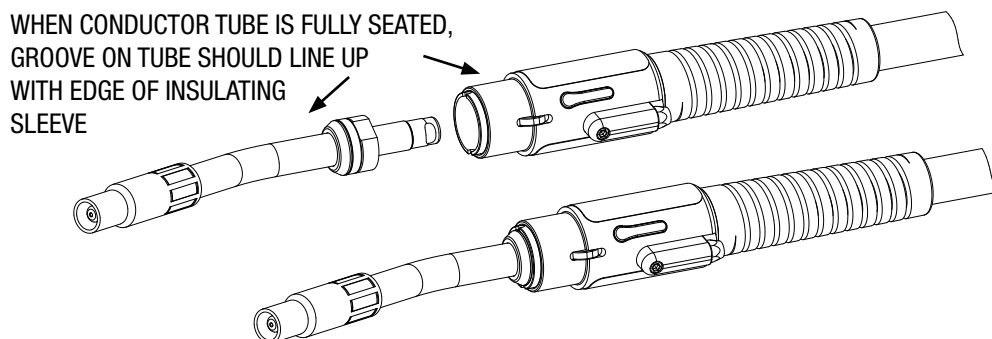

Figure 3: Conductor Tube Installation
6. Push the conductor tube assembly into place until the locking screw can drive the back plug on the conductor tube into its locked operating position. The conductor tube has a machined locating groove around its rear diameter. This groove will be flush with the front housing when properly installed as shown in Figure 3.